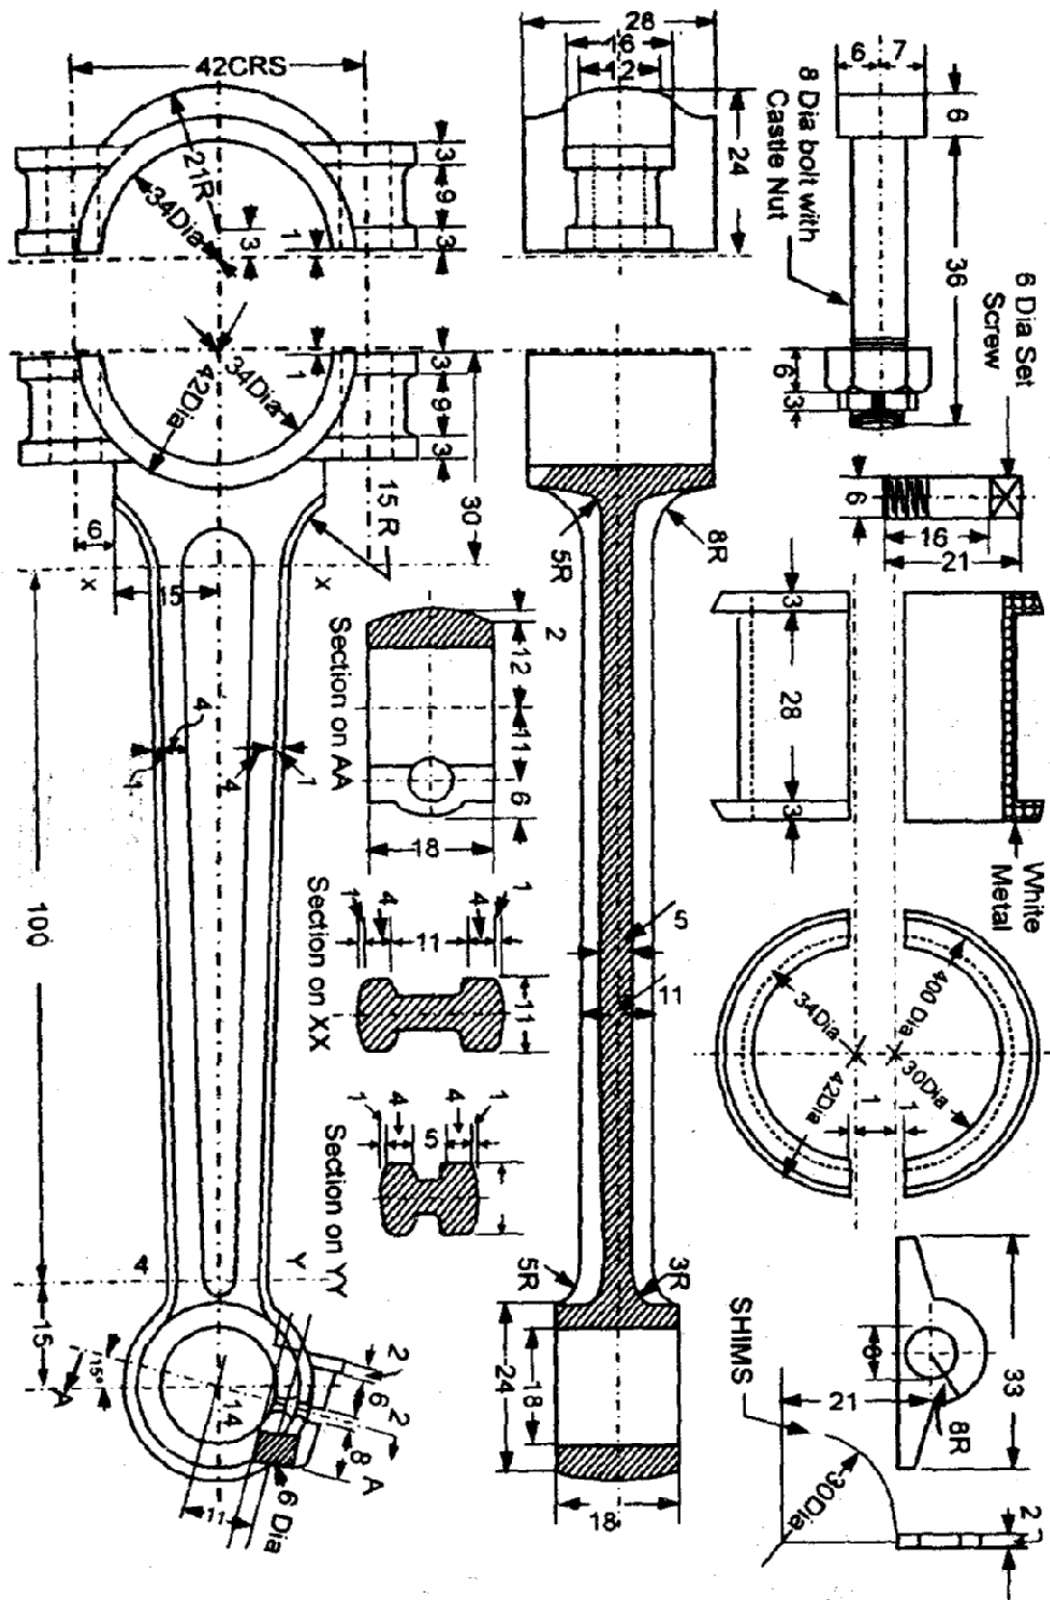

Fig.3.
8. Fig. 3. shows the details of an I.C. engine connecting rod. Draw the following views full-size scale (a) Front view upper half in section (b) Side view, and (c) Half-sectional plan.